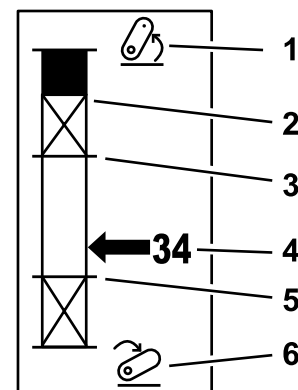

Figure 22
2. Start the Outcross machine and cycle through the screens on the status display to show the 3-point hitch height (Figure 22).
3. Move the 3-point hitch up and down and record the number for the current hitch position when in the transport position, the turn around position, the maximum work position, and the minimum work position (Figure 22).
This is the maximum lift height of a 3-point attachment. Set this position by lifting the attachment to the maximum height allowed or the highest angle for a non-engaged PTO shaft; whichever occurs first. Note the height position on the status display screen and enter it into the parameter setting in the InfoCenter screen (Figure 22).
attachment does not damage the natural swales of the turf. Note the height position on the Status Display screen and enter it into the parameter setting in the InfoCenter screen (Figure 22).
Raise the attachment to the highest allowed point and note the height position on the Status Display screen and enter it into the parameter setting in the InfoCenter screen (Figure 22).
Lower the attachment to the lowest, allowed point and note the height position on the Status Display screen and enter it into the parameter setting in the InfoCenter screen (Figure 22).